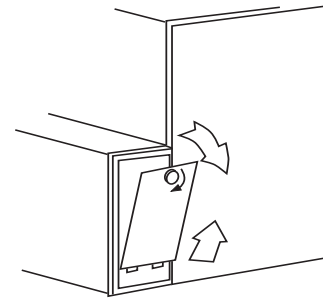
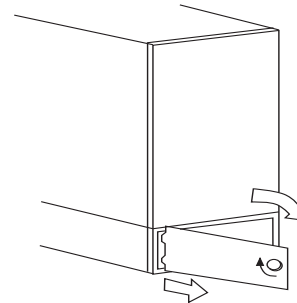

Fig. 19 – Removal of Filter Cabinet Door from Side Blower Cabinet A00225
Fig. 20 – Removal of Filter Cabinet Door from Bottom Blower Cabinet A00226
- a. Remove filter cabinet door (see Fig. 19 and Fig. 20).